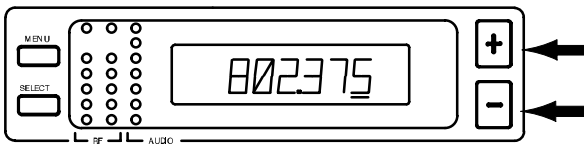

FIGURE 19
4. Press the "+" or "-" button to increase or decrease the setting in incremental steps until reaching the desired frequency. See Figure 19.